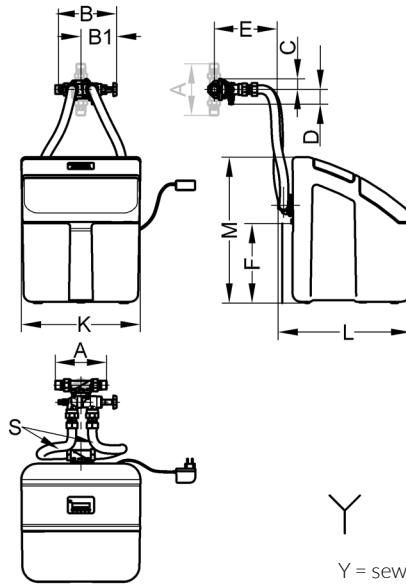

Fig. 16: Installation dimensions
**All dimensions in [mm] (see fig. 16)**